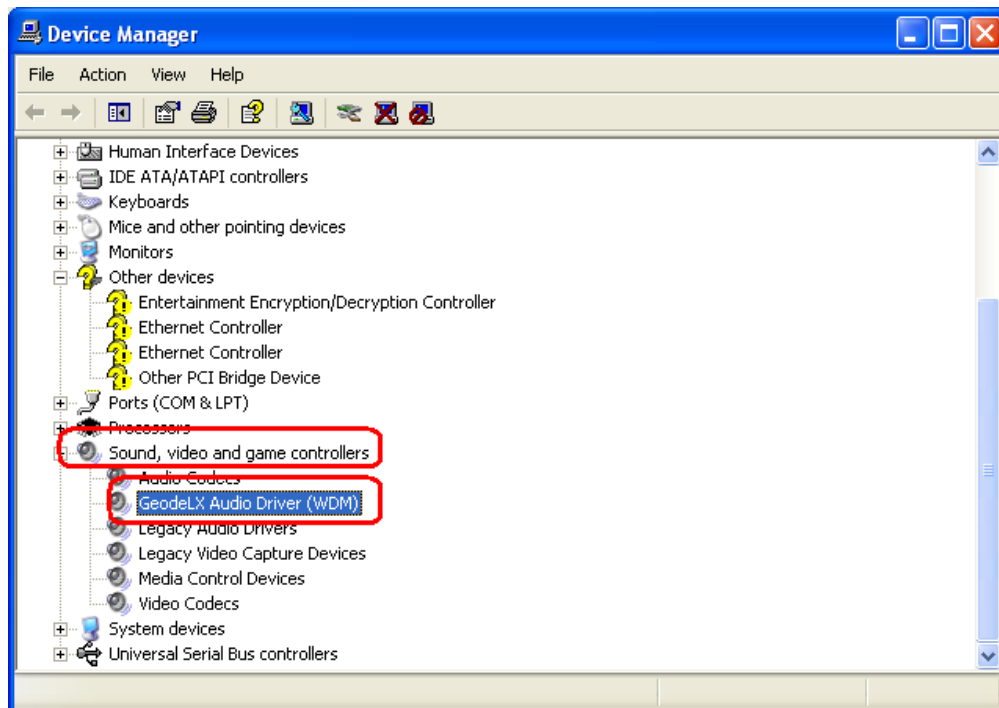

Figure 7-24: Device Manager Update
Step 16: The Device Manager refreshes and the Audio Driver can be seen in the Sound, Video and Game Controllers option. See **Figure 7-24**.